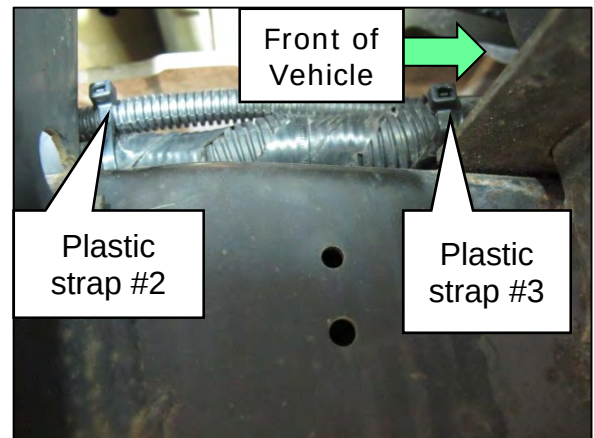

Figure 58
- Figure 58 is from the RH side frame rail behind the right rear cab mount.